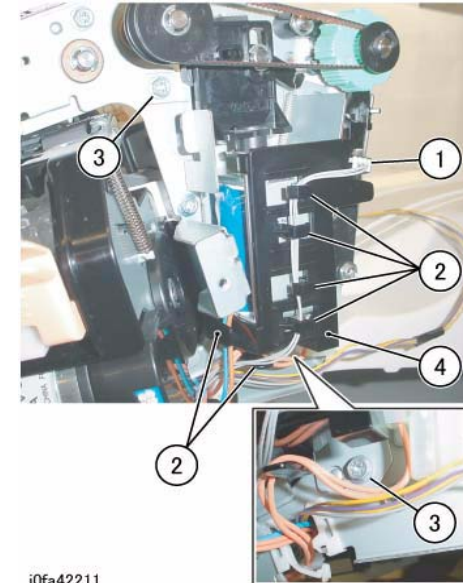

Figure 2 Removing the Sub Paddle Solenoid Assembly (j0fa42211)
7. Remove the Sub Paddle Solenoid Assembly. (Figure 2)